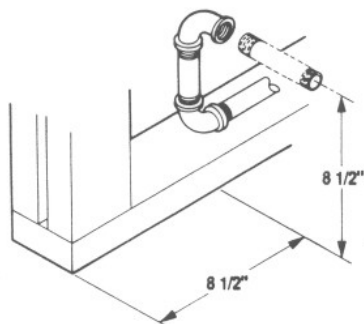

Figure 5
Step 2. Route a 1/2" NPT black iron gas line 8 1/2" above the floor surface (if fireplace will be resting on the floor) and 8 1/2" behind the face at the rough framing (Figure 5).